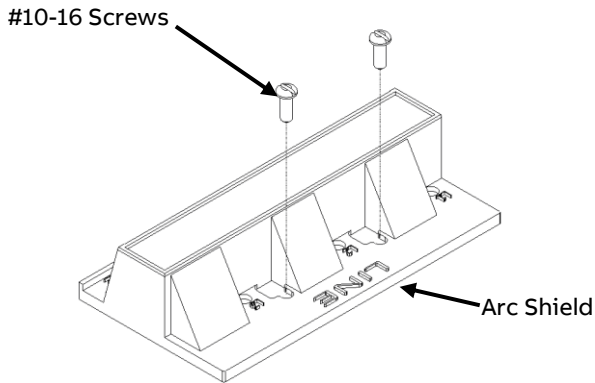

Figure 3. : Arc Shield THSHLD3 for Safety Switch
Arc Shield to be mounted on Switch Base by using new or old (saved hardware) qty. (2) #10-16 screws. with torque 15 In-lbs as shown in Fig 3.